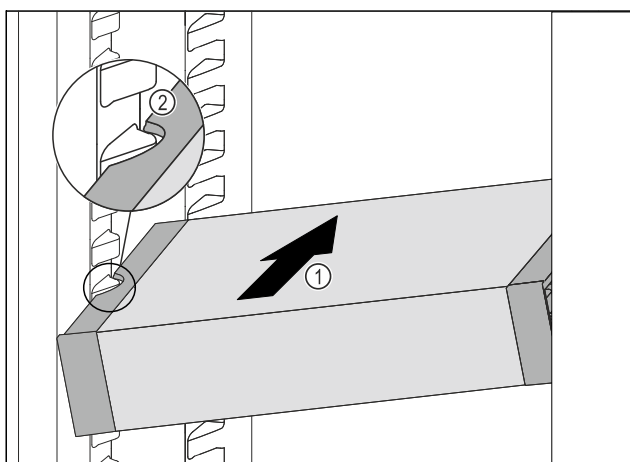

Fig. 114
- Insert the VarioSafe into the fridge section at an angle *Fig. 114 (1)* until the recesses in the side *Fig. 114 (2)* of the VarioSafe are at the level of the support rib in the fridge section.